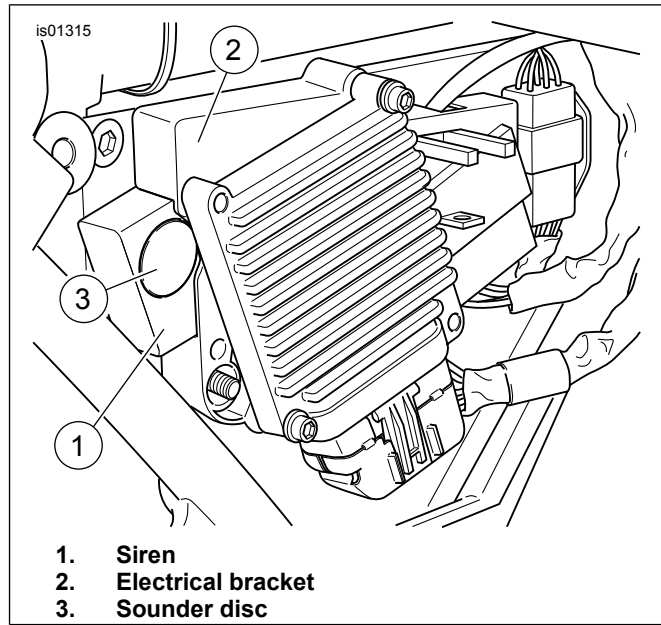

Figure 14. Siren and Electrical Bracket Installed (2002-2007 FL Touring Models)
- See Figure 14. Install the electrical bracket assembly with the siren back onto the studs on the side of the battery box. Install the two flange nuts onto the studs and tighten to 4.1–5.4 N·m (36–48 in-lbs).